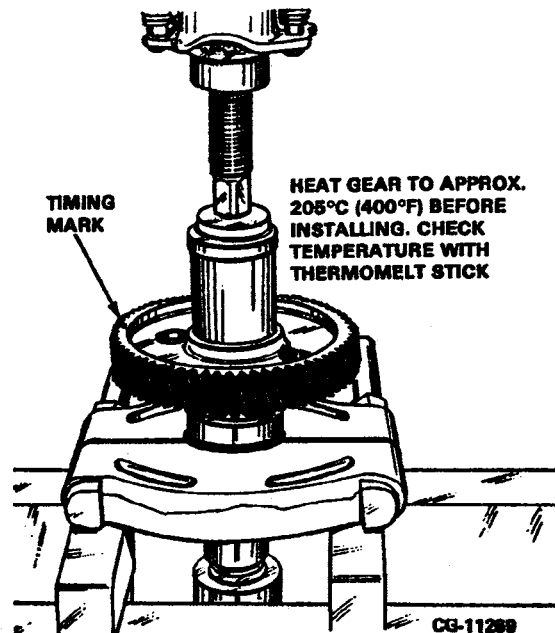

Figure 5.20. Installing Camshaft Drive Gear
- e. Press the gear against the shoulder on the shaft with the timing mark pointed upward as shown in Figure 5.20.